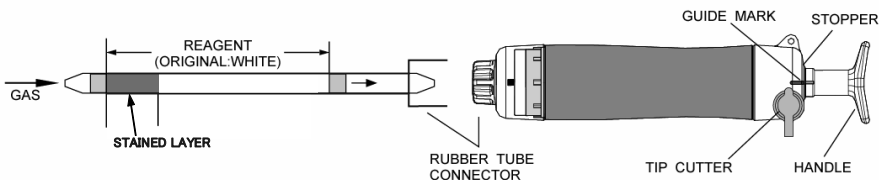

Fig.1
- ② Insert the detector tube into aspirating pump securely as shown in Fig.1.
- ③ Put the top end (filled with the reagent) of the detector tube near the object to be examined such as burnt clothes, cloth, a carpet, and soil & sand, etc. as much as possible.
- ④ Align the guide marks on the shaft and stopper of the aspirating pump.
- ⑤ Pull the pump handle at full stroke locked position and wait for 30 seconds or until the completion of sampling is confirmed with the flow indicator of the pump (See descriptions about the flow indicator in the instruction manual of the pump). Here, gas near the object to be examined is sampled into the detector tube.